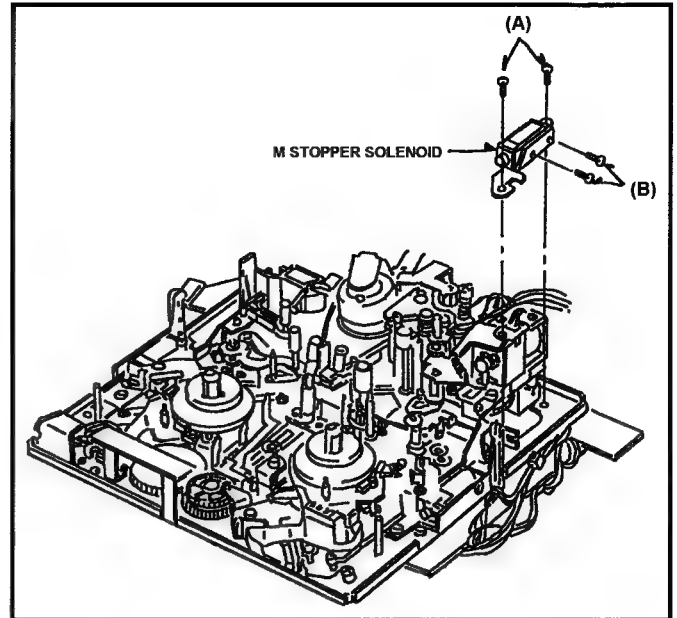

Fig.6-18-1 Removal of M-Stopper Solenoid
4. Unscrew the 4 screws (A) and (B) and remove the M-Stopper Solenoid as shown in Figure 6-18-1.